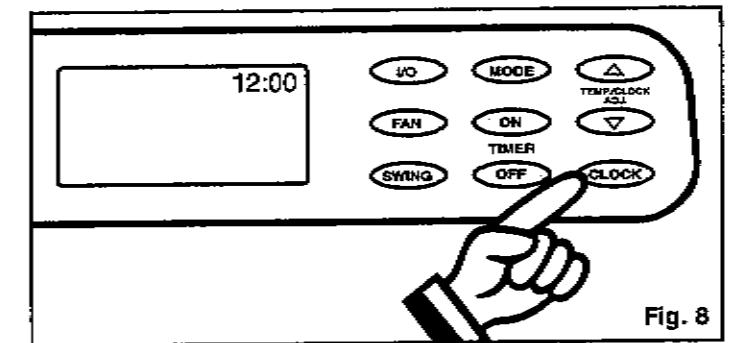

Fig. 8
- 1) Push and hold the **CLOCK** key pad for three (3) seconds. The clock display will flash indicating "12.00" for approximately 10 seconds. *Fig. 8.*